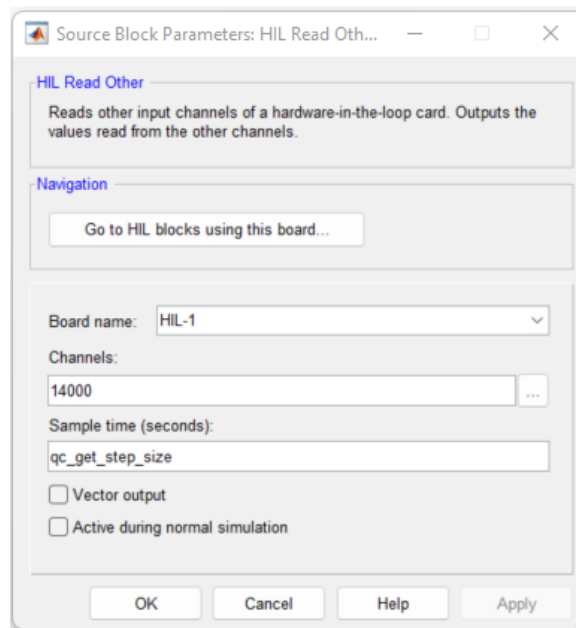

Figure 4: HIL Read Block Configuration
2. Double click on the *HIL Read Other* block. In the Source Block Parameters dialog which opens, under Channels enter the number 14000 as shown in Figure 4.